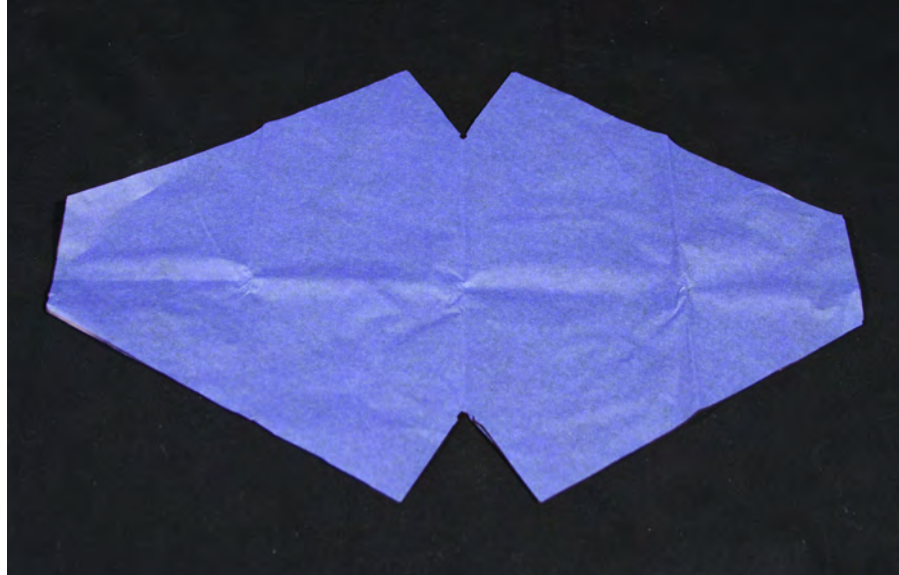

Fig. 12 Completed tissue paper template
15. Next, cut out or cut off the tapered corners of the template so it looks like the picture below (figure 12):